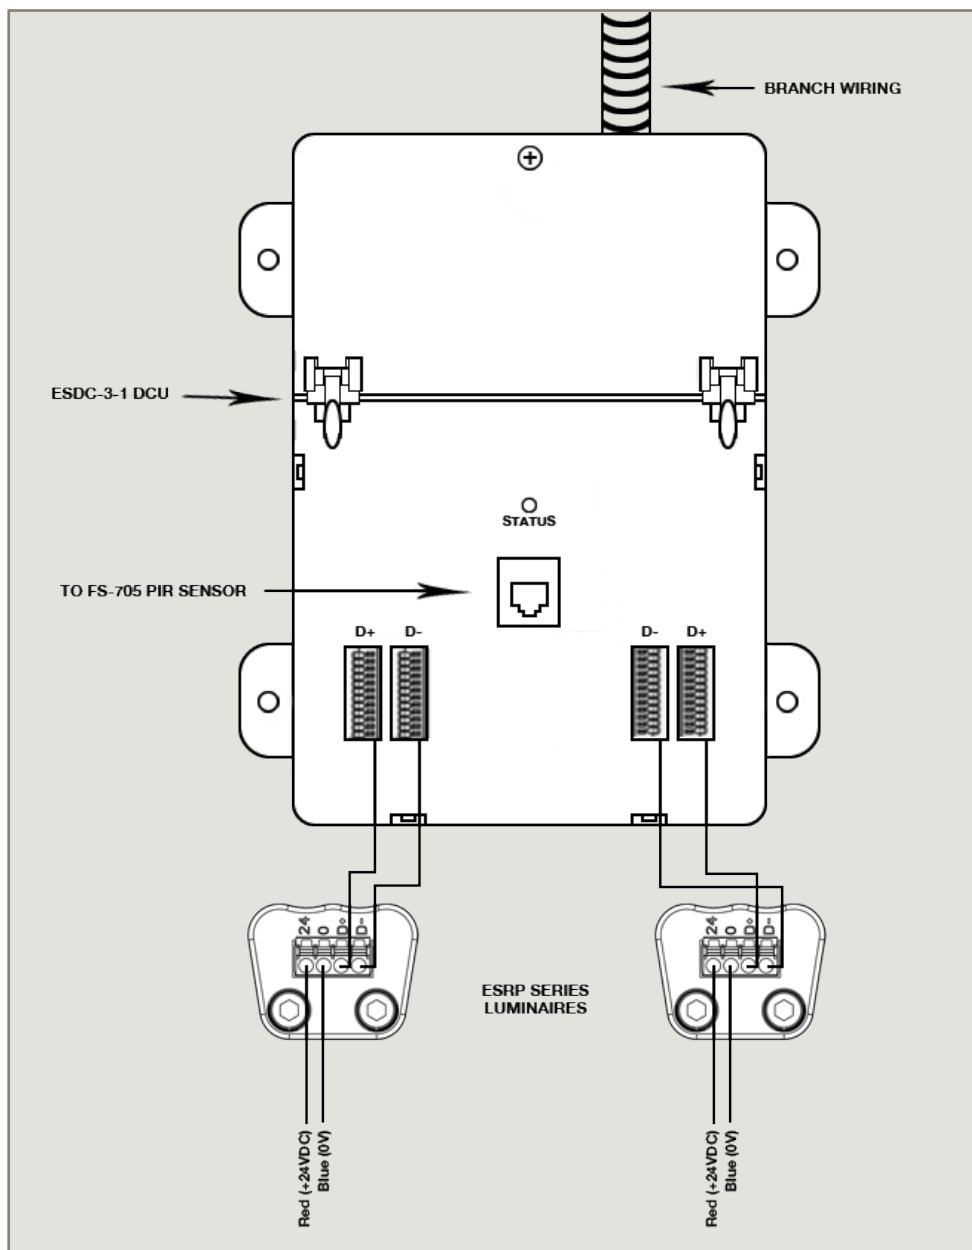

Figure 5: Wiring of ESDC-3-1 DCU
7. Wire the ESDC-3-1 DCU to all EcoStar units to be controlled by the DCU. Run a 2 conductor cable from the ESDC-3-1 DCU to each EcoStar unit as shown in Figure 5. Recommended cable is solid 20AWG NEC Class 2 cable or a cable required by local electrical code. Up to 24 EcoStar units can be wired to a single ESDC-3-1 DCU. Wire the D+ wire trap of each EcoStar unit to any of the wire traps located on the D+ terminal blocks of the DCU. Wire the D- wire trap of each EcoStar unit to any of the wire traps located on the D- terminal blocks of the DCU. Repeat until all EcoStar units are wired to their respective DCUs.